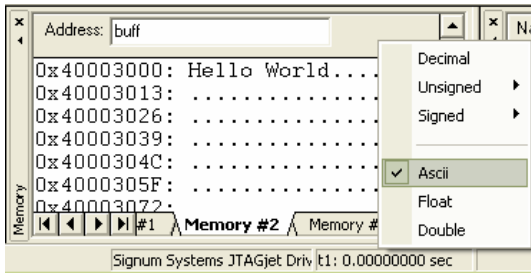

FIGURE 32 The buff[] variable, displayed in ASCII format, contains the “Hello World” string.
6. Set a second breakpoint on line 11 in the `main.c` module. Then run the application code once again. This time the code copying the string "Hello World" to the variable `buff[]` is executed. The application stops at line 11 in `main.c` (address `0x400001DC` in Disassembly window). See Figure 32 below.
7. Verify that the contents of the buff[] variable in the Memory window has changed. Right-click in the window and select ASCII from a popup menu. The Memory window, now in the ASCII mode, shows that the string “Hello World” has been copied to the variable (Figure 32).